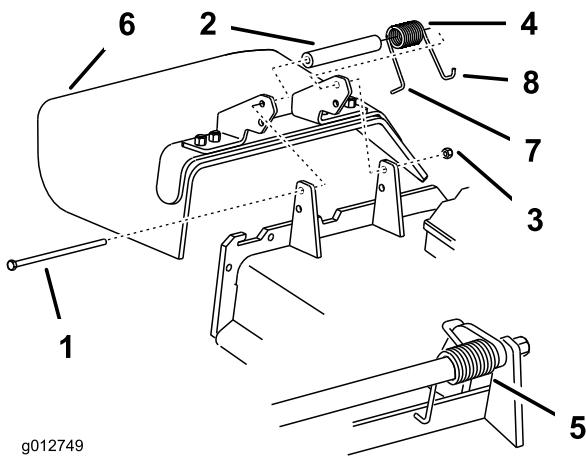

Figure 60
1. Remove the locknut, bolt, spring and spacer holding the deflector to the pivot brackets (Figure 60). Remove damaged or worn grass deflector.
Note: Make sure the **L** end of spring is installed behind deck edge before installing the bolt as shown in Figure 60.
3. Install bolt and nut. Place the **J** hook end of spring around grass deflector (Figure 60).